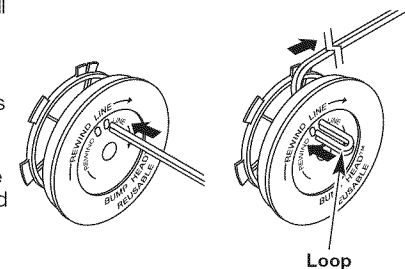

Fig. 19
8. Take approximately 10 feet (3 m) of new trimming line. Insert one end of the line through one of the two holes in the inner reel (Fig. 19). Pull the line through the inner reel until only about 4 inches is left out.
9. Insert the end of the line into the open hole in the inner reel and pull the line tight to make the loop as small as possible (Fig. 19).